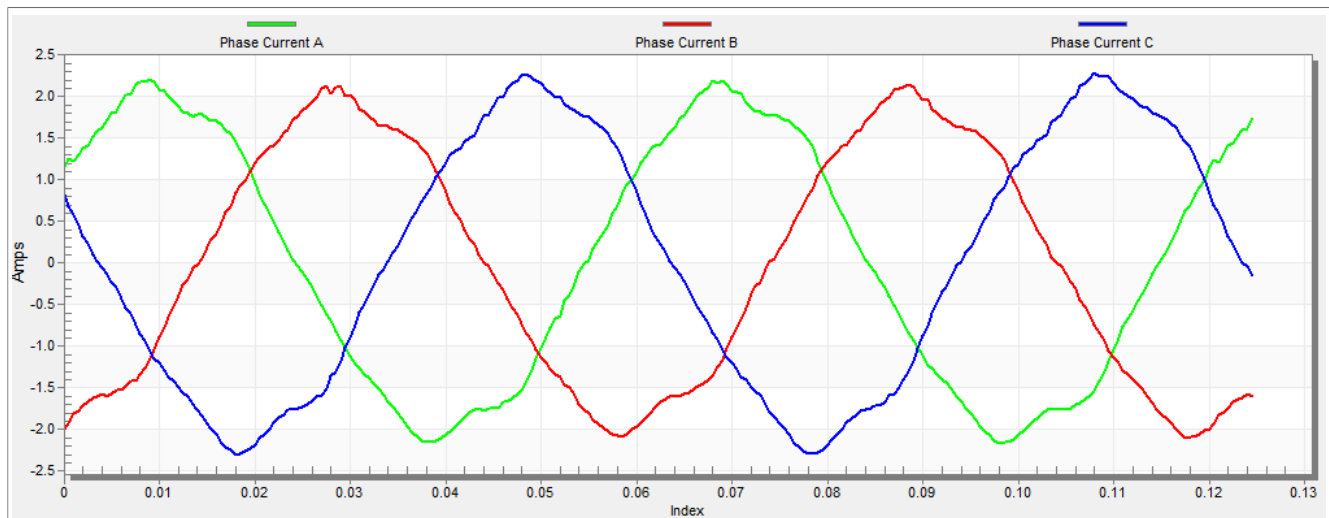

Figure 30. Phase currents
5. The optimal ratio for the V/Hz profile can be found by changing the V/Hz factor directly using MCAT input "Scalar V/Hz factor ratio". The shape of the motor currents should be close to a sinusoidal shape (Figure 30).